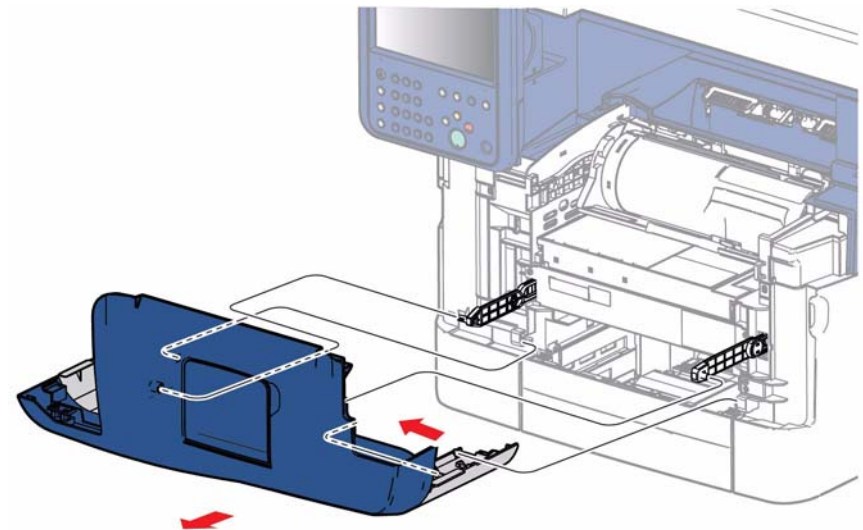

Figure 1 Remove the Front Cover Assembly
4. Refer to Figure 1 to locate and release 2 hooks that secure the cover to the Left and Right Front Links, then release the cover from the hinge boss at each side.